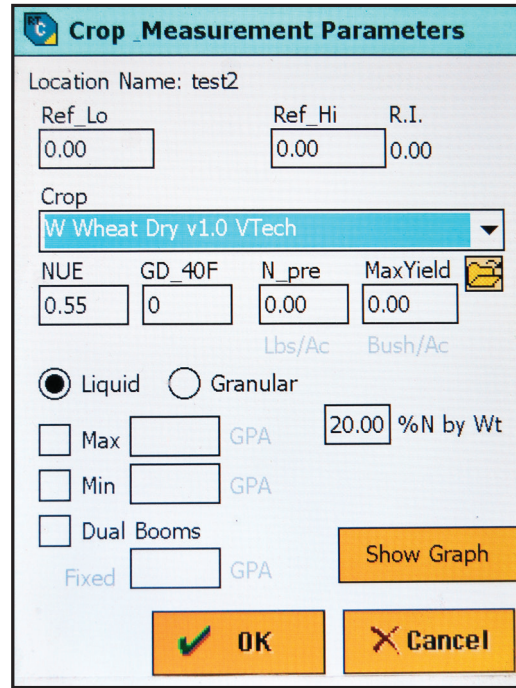
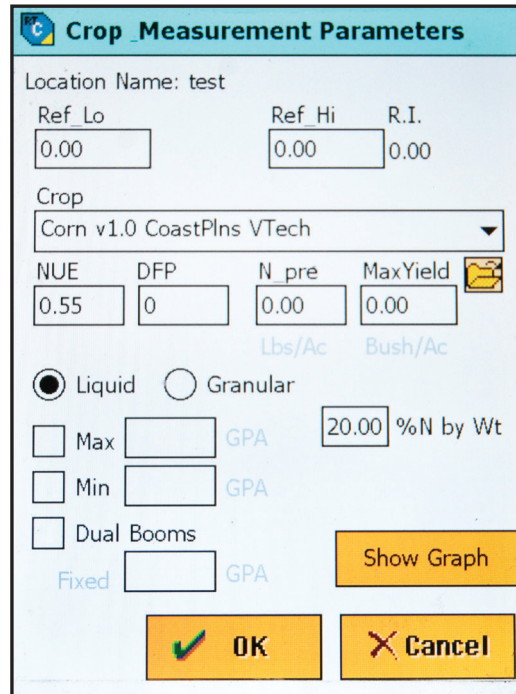

Figure 3. Virginia wheat algorithm crop input information.
Figure 4. Virginia corn algorithm crop input information.
3. After reference strip information is input, the “Crop Measurement Method” screen for this fertilizer application appears and includes crop input data necessary to complete the algorithm (figs. 3 and 4). On this screen, the “Location Name” and “Ref\_Lo” and “Ref\_Hi” will be prepopulated from previous inputs. The first selection necessary is whether you are applying this fertilizer to wheat (fig. 3) or corn (fig. 4) by choosing the correct Virginia Tech (VTech) algorithm.